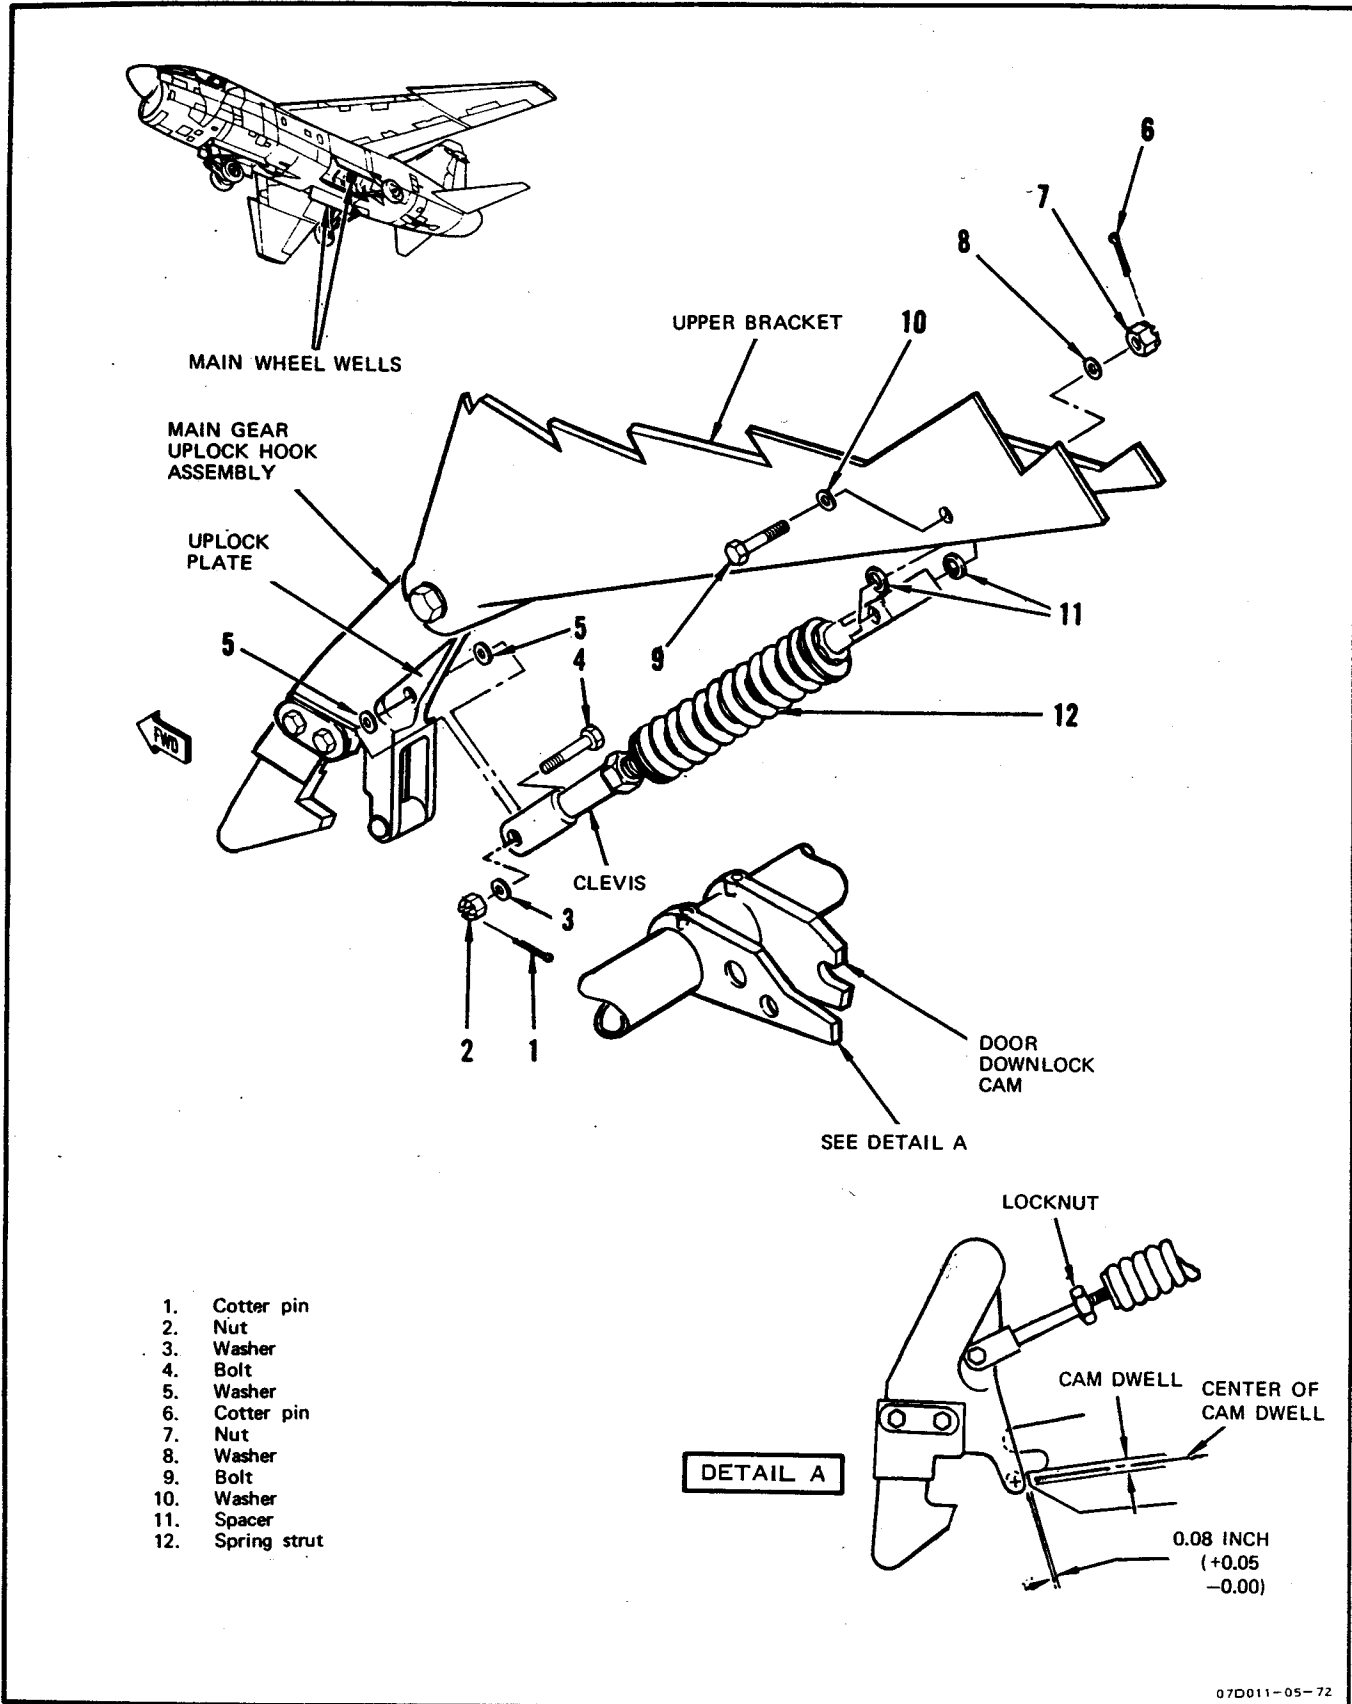

Figure 1-14. Main Gear Uplock Spring Strut Removal and Installation
**1-54. REMOVAL. (See figure 1-14.)**
a. Remove cotter pin (1), nut (2), washer (3), bolt (4) and washers (5) securing spring strut to uplock assembly.
b. Remove cotter pin (6), nut (7) washer (8), bolt (9), washer (10), and spacers (11) securing spring strut to upper bracket.
c. Swing uplock assembly forward and remove spring strut (12) from airplane.
**1-55. INSTALLATION. (See figure 1-14.)**
b. Lubricate bolt (9) with MIL-G-23827 grease. Attach spring strut (12) to upper bracket with bolt (9), washer (10), spacers (11), washer (8), nut (7), and new cotter pin (6). Bolt shall rotate freely.
c. Lubricate bolt (4) with MIL-G-23827 grease and attach clevis end to uplock assembly with washers (5), bolt (4) (bolthead inboard and down), washer (3), and nut (2).
e. Add or remove washers (5) between clevis and uplock plate to limit total lateral end play to 0.03 ( $\pm 0.01$ ) inch. Install new cotter pin (1).